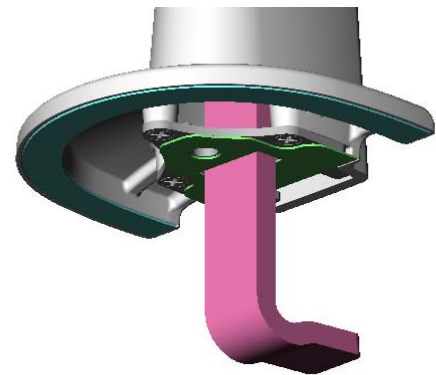

Figure 5. Secure Base Clamp
3. Using three screws, secure the base bracket to the bottom of the desk clamp (see Figure 5).